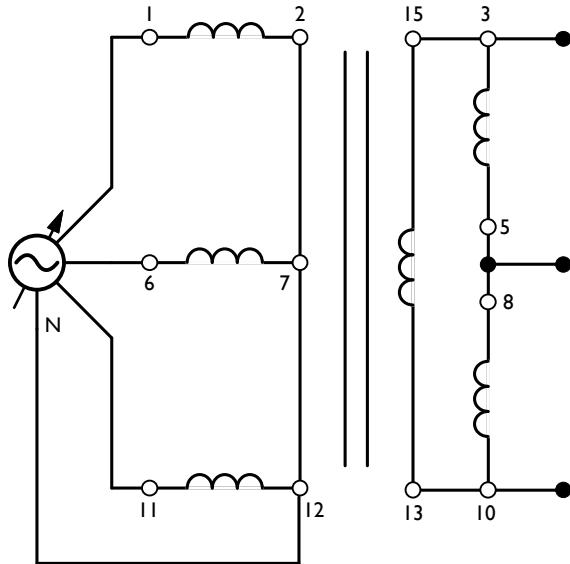

Figure 2.5: Three-Phase Transformer Connected in Wye-Delta
26. With the power off, connect the Three-phase Transformer module in the Y - Δ configuration shown in Figure 2.5. Connect E1, E2, and E3 to measure the line voltages at the primary, E_{1-6} , E_{11-1} , and E_{6-11} .